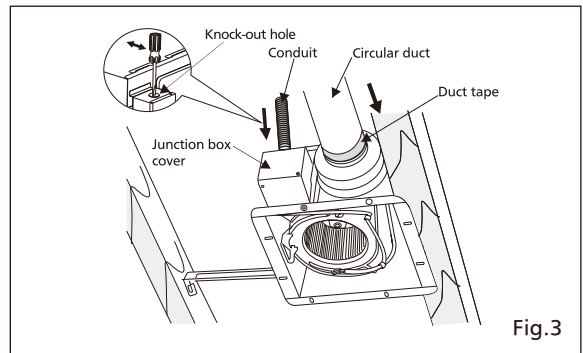

Fig.3
4. Install a circular duct and secure it with clamps, or wire ties and seal it with mastic or approved duct tape. 4 inches circular duct or 6 inches circular duct is needed to connect to relevant part of common adaptor.(Fig.3)
5. Remove junction box cover and secure conduit or stress relief to junction box knock-out hole. (Fig.3)